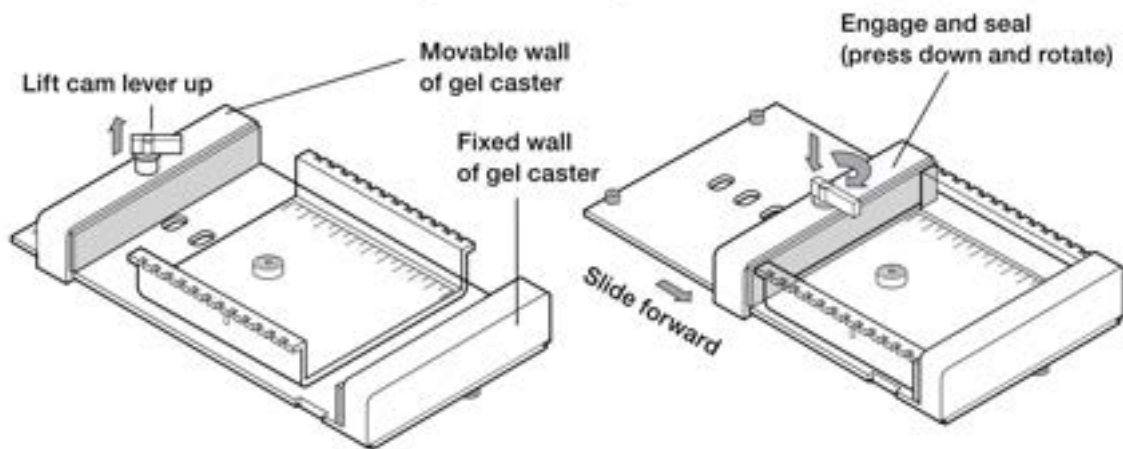

Fig. 2. Sealing the UVTP tray for gel casting.
- Slide the movable wall against the edge of the UVTP tray (Figure 2).